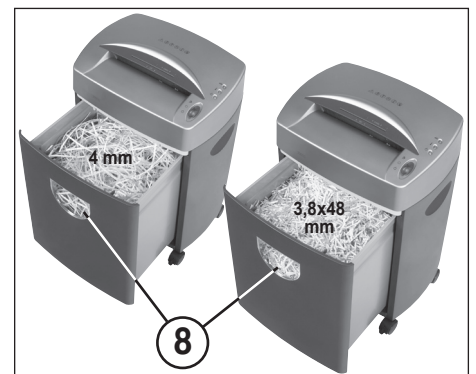

fig. 3
**EMPTYING THE RECEPTACLE (Fig. 3):**
When the shredded material becomes visible in the “receptacle full” window (8) (fig. 3) it is time to empty the receptacle.